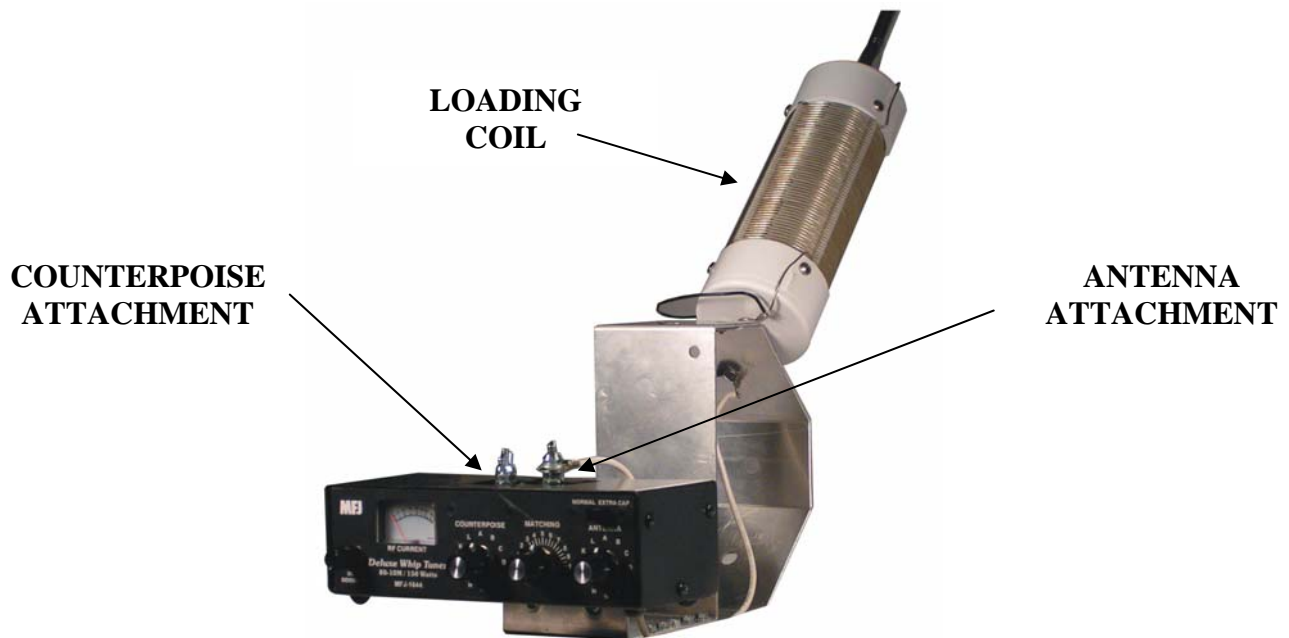

Figure 1: MFJ-1625 Window/Balcony Mount Antenna
4. Loosen the ANTENNA Attachment and connect the Antenna wire to the ANTENNA Attachment using the wing nut provided. (See Figure 1)
5. The assembled unit should resemble Figure 1. Now you are ready to choose a mounting position.